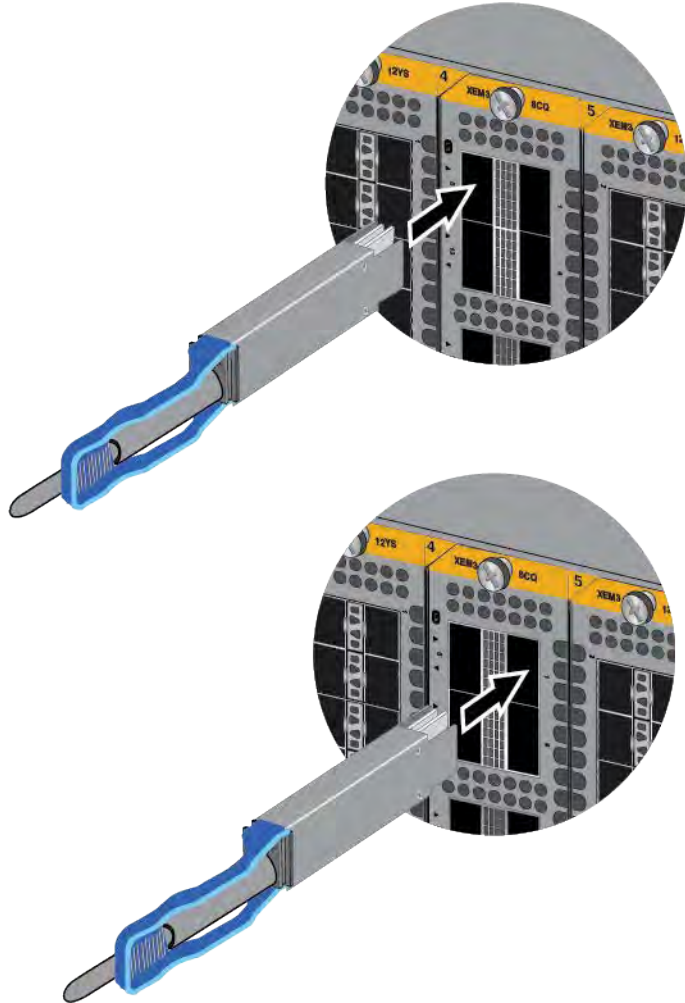

Figure 54. Installing QSFP1CU and QSFP3CU Direct Attach Cables in the XEM3-8CQ Module
- ❑ XEM3-8CQ Module with QSFP1CU or QSFP3CU cables: For all ports, orient the connector with the handle on the right side. Slide the connector into the slot until it clicks into place. Refer to Figure 54.